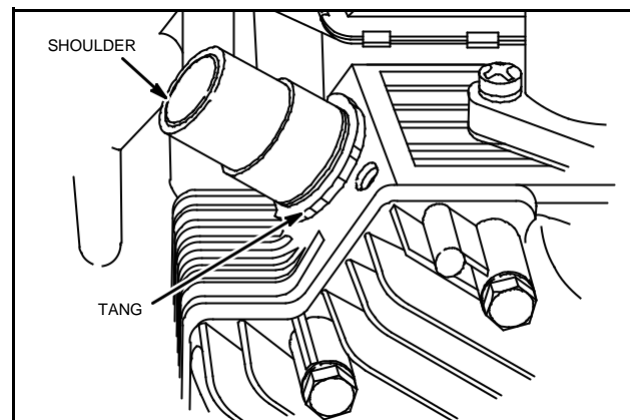

Fig. 15 – Exhaust Nipple Installed
1. Install port liner, new gasket and cap screws, Fig. 15.